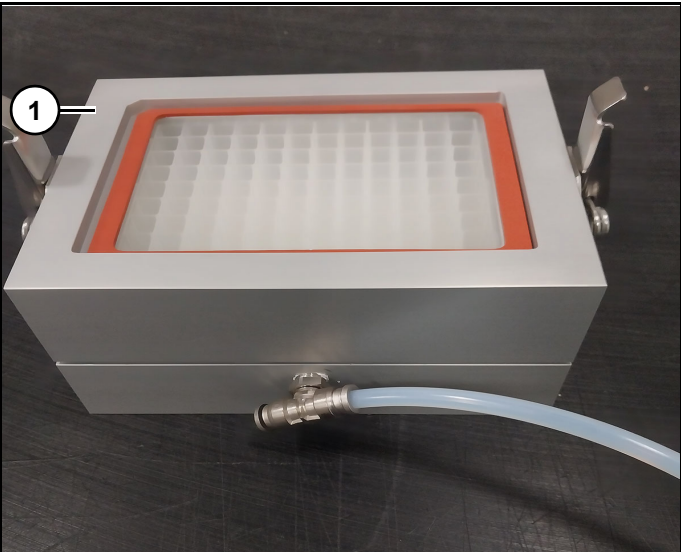

Figure 109
4. Place top portion (1) (Figure 109) of cleavage chuck on top of bottom portion of the chuck with 96 well plate.